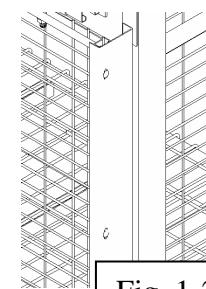

Fig. 1-2
- Assemble Door #2 and End Capping Channel with the Wide end of the End Capping Channel facing towards the Pallet rack when door is going to be assembled. Secure with the Carriage bolts (F1), Nuts (F4) provided. See Figure 1-2 Provided.